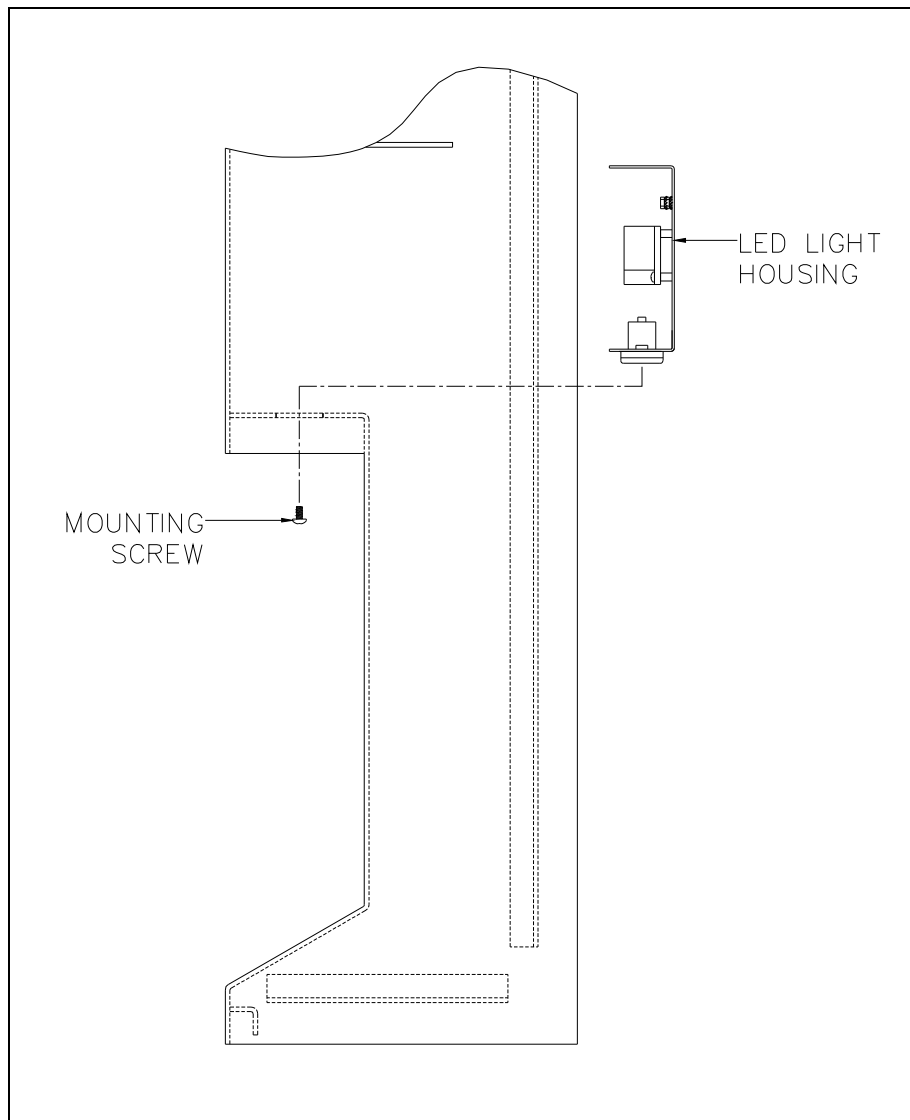

Figure 5. Stanchion Panel Light Assembly
1. Align the stanchion panel light assembly inside the stanchion as shown in Figure 5.